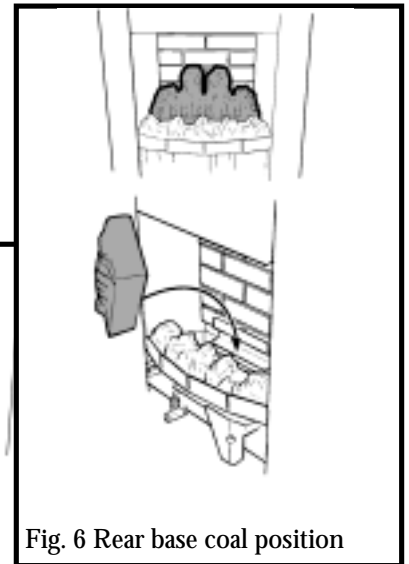

Fig. 6 Rear base coal position
3. Place the rear base coal in the burner compartment behind the front coal. Its rear face should touch the rear ceramic wall (See figure 6).